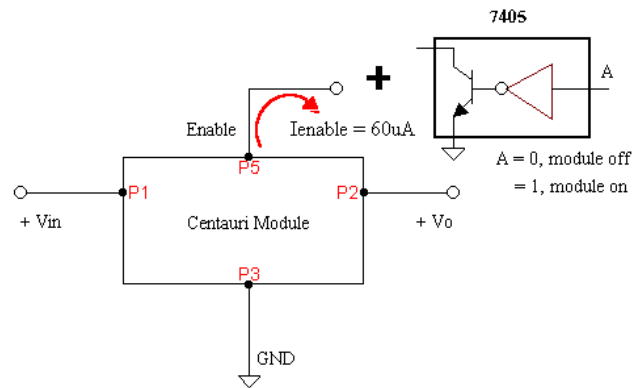

Figure 3. Output Voltage Enable function diagram.
- Refer to Figure 3 for the Output Voltage Enable configuration.
For TTL compatibility, Figure 3 shows a 7405 open collector inverter IC utilized to function the Enable feature. Other common chips that can do the function are 74S05; 74HCT05; non-inverting - 7407; 74S07; 74HC07. If SMT packaging is preferred, Fairchild's Tiny Logic NC7SZ05 or TI's Little Logic SN7SLVC1G06 comes in SOT23 or SC70 packages.